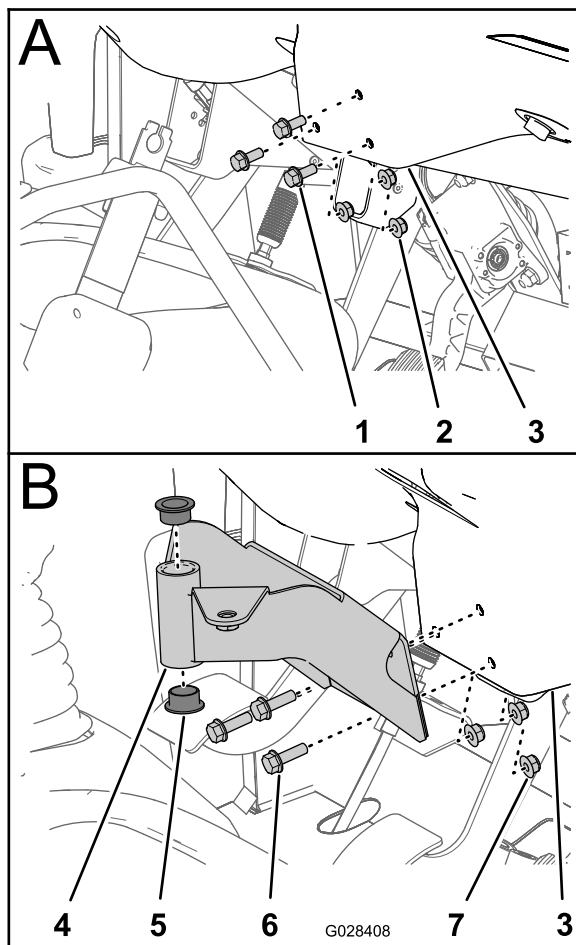

Figure 18
1. Remove the 3 bolts and 3 nuts that secure the lower-center portion of the dash panel to the dash support bracket (Figure 18).
2. Align the holes in the mounting bracket for the control console with the holes in the dash and support bracket (Figure 18).
4. Torque the nuts and bolts to (Figure 18).
5. Insert the 2 plastic bushings into the mounting bracket (Figure 18).